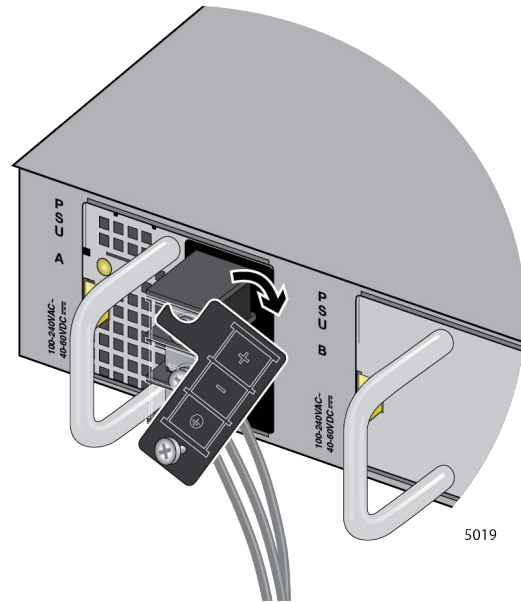

Figure 153. Accessing the Connecting Screws
3. Press the panel to the right to access the connecting screws as shown in Figure 153 on page 257.